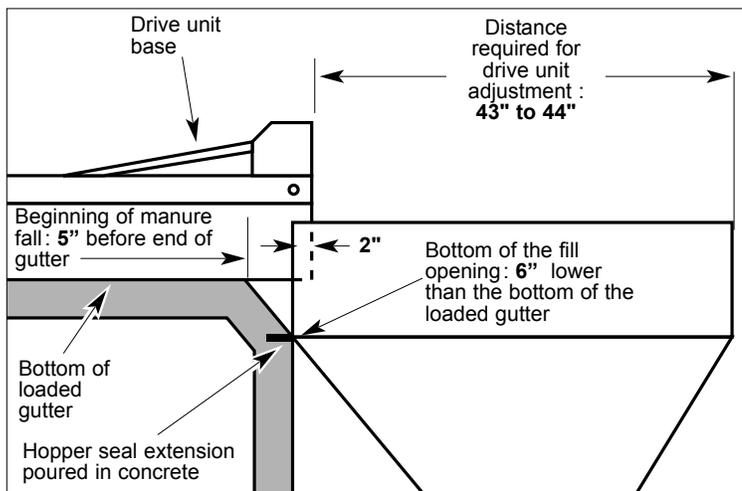

fig. 1
1. Set the Magnum so the fill opening of the hopper is 6" lower than the bottom of the barn cleaner gutter — *fig. 1*.
2. Pour the end of the loaded gutter sloped downward so the manure starts falling in the hopper 5" before reaching the end of the gutter — *fig. 1*.
3. Set the base of the drive unit at roughly 43" or 44" from the opposite side of the hopper — *fig. 1*.